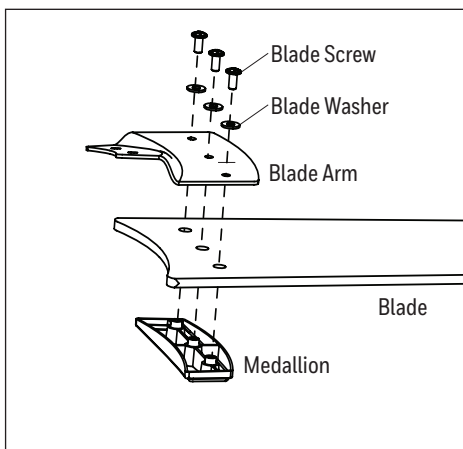

Figure 5.4
- Partially insert three blade screws along with blade washers through the blade, blade arm, and into the medallion. Tighten each blade screw starting with the one in the middle. Repeat this step for the remaining blades. Note: Ensure the concave edge of the medallion is parallel to the concave edge of the blade (Figure 5.4).